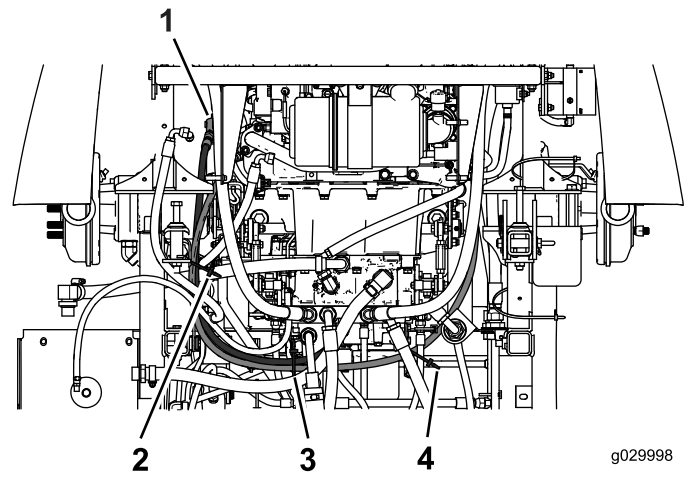

Figure 19
7. Secure the hydraulic hoses with the cable ties (Figure 19).